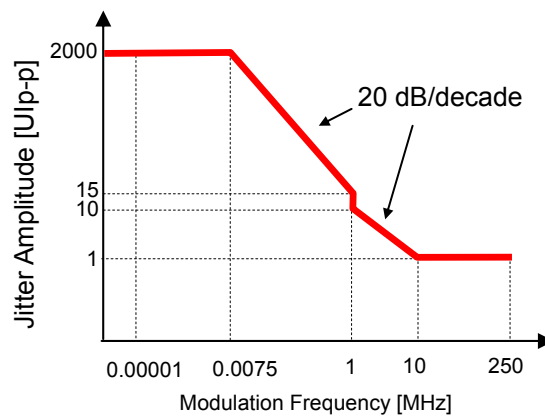

Figure 3.5-3 Total Jitter Added (When Interacting With 32G PPG)
0.007501 to 1.00000	20 dB/decade (Figure 3.5-3) +0.3
1.001000 to 10.000000	20 dB/decade (Figure 3.5-3) +0.3